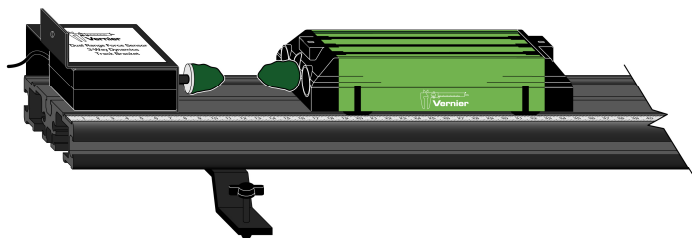

Figure 3
1. Replace the hoop spring bumper with one of the clay holders from the Bumper and Launcher Kit. Attach cone-shaped pieces of clay to both the clay holder and to the front of the cart, as shown in Figure 3.